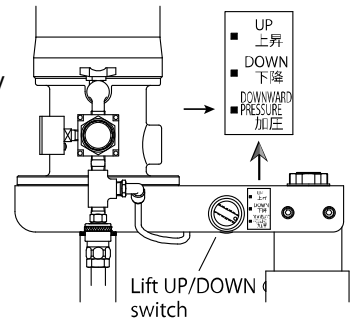

Fig. 9
- 8) Switch the control of the lift up/down switch to "DOWNWARD PRESSURE". (Fig. 9)